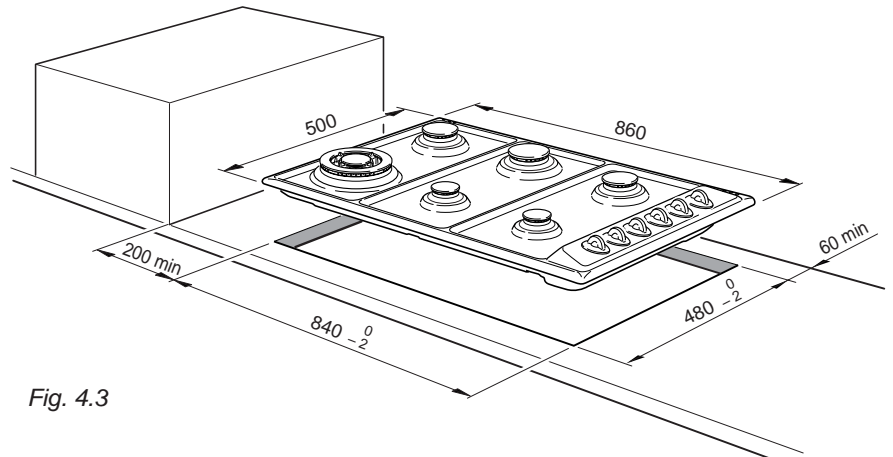

Fig. 4.3
In order to install the cooker top into the kitchen fixture, a hole with the dimensions shown in fig. 4.3 (for cooker top 860x500 mm) or 4.4 (for cooker top 580x500 mm) has to be made, bearing in mind the following:
- ✓ the cooker top must be kept no less than 200 mm away from any side wall (figs. 4.3 - 4.4);